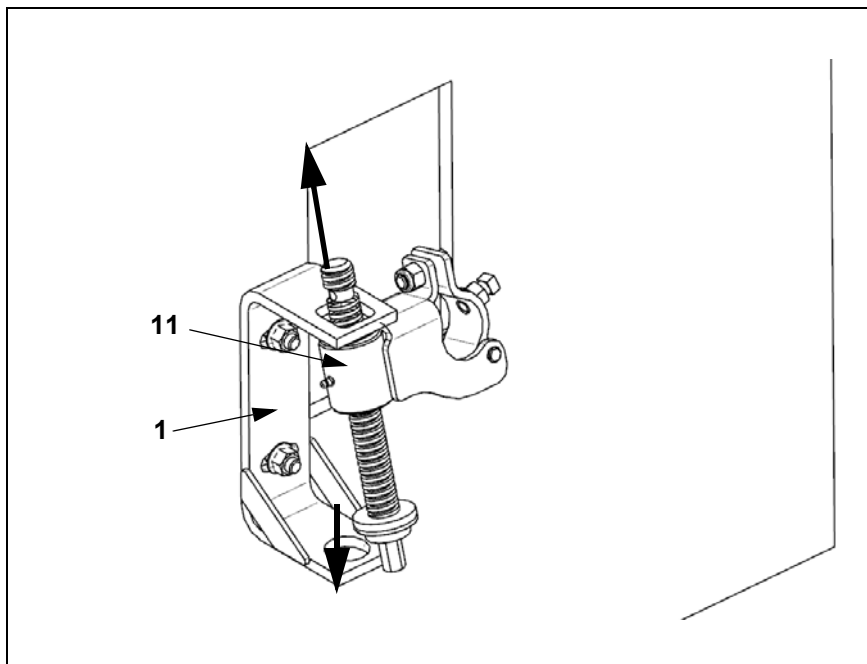

Fig. 9:
2. Insert the holder arm (11, Fig.9) together with the threaded rod, pivot joint block and lower bearing bush with proper alignment (Fig. 9) into the installation panel (1, Fig.9).